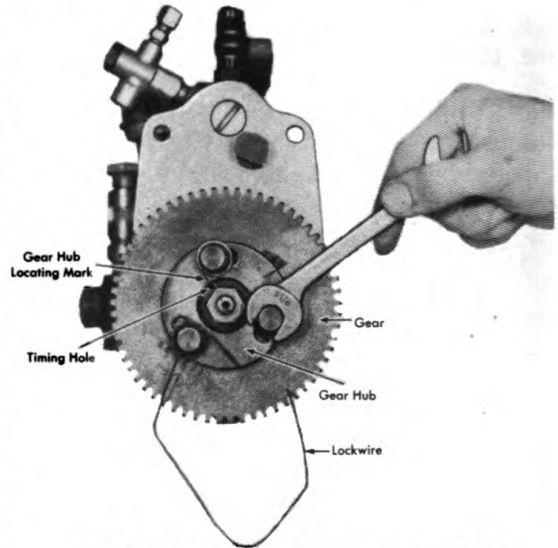

Figure 324. Removing Gear Hub Capscrews.
3. Remove the wire locks from the capscrews of the fuel pump gear. Slightly loosen the three capscrews so that the gear hub is free to turn. See Figure 324.